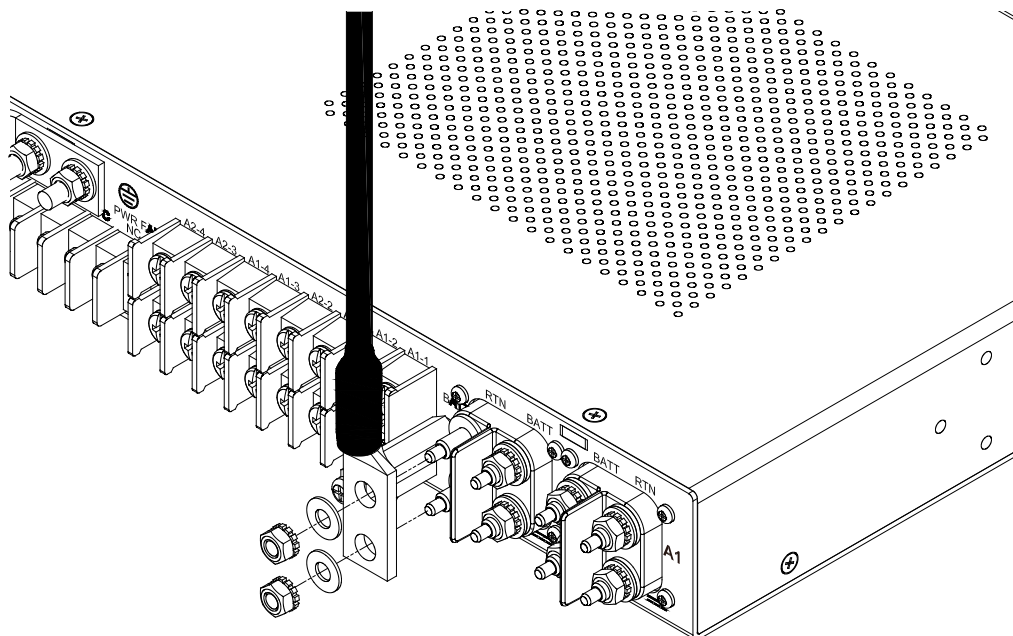

Figure 5 - Input Lugs
13. Telect recommends putting a light coating of anti-oxidant on the lugs and input **BATT** and **RTN** terminals before connecting input terminals on the back of the panel. See Figure 5.